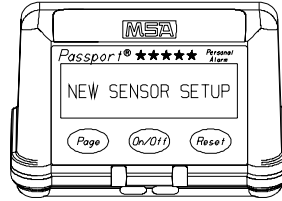

Figure 1-4.
- Instrument display flashes the "welcome" screen; FIGURE 1-4 appears on the display.